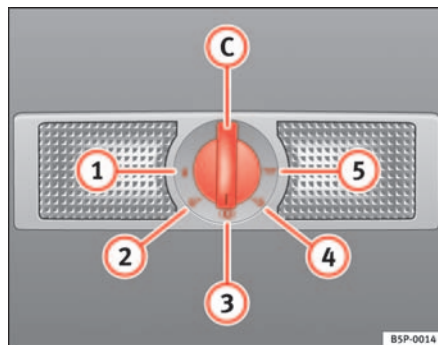

Fig. 84 Detail of the roof:
The switch ⇒ fig. 84 ③ is used to select the following positions:
In switch position ⇒ fig. 84 ①, the interior and reading lights are switched off.